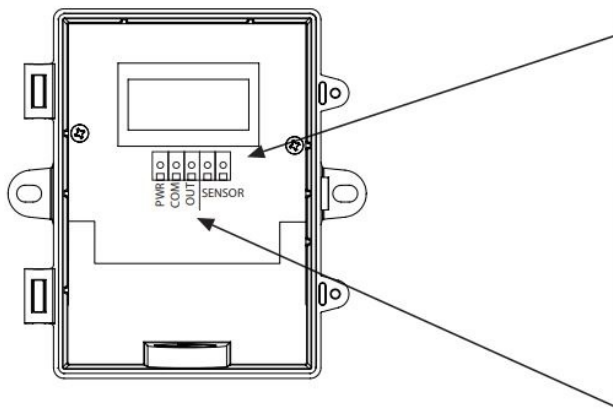

Figure 6
- The temperature transmitter comes with the temperature sensor pre-wired to the transmitter board. If removal is required for installation then it may be re-wired as shown in Figure 6.